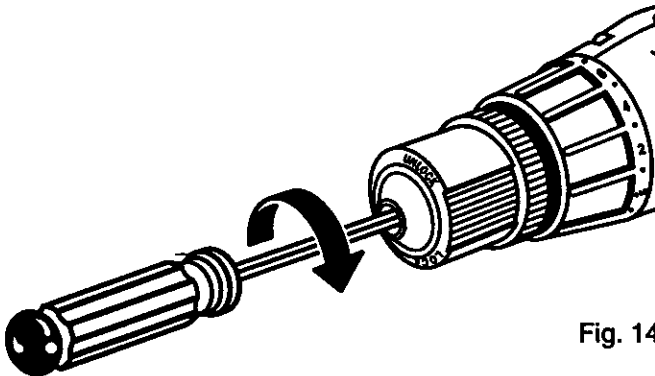

Fig. 14
- Open chuck jaws and remove allen wrench. Remove the chuck screw by turning it in a clockwise direction. See Figure 14. Note: The screw has left hand threads.